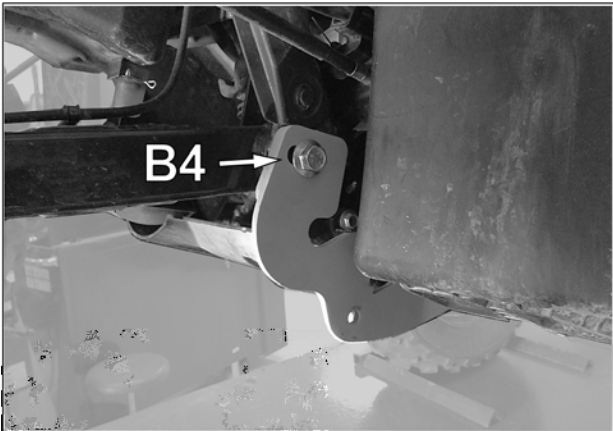

Fig. 5
5. Position anchor plate over swingarm pivot hole as shown on Fig. 5. Insert M12x90 mm bolt (B4) through anchor plate and swingarm hole. Thread nut (B6) on bolt but do not tighten it immediately. Refer to Fig. 5